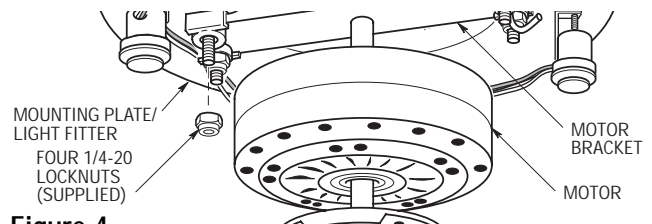

Figure 4
3. Once wiring is completed, lift the motor bracket so that the four threaded studs on the mounting plate/light fitter protrude through the four holes in the motor bracket. (See Figure 4.)